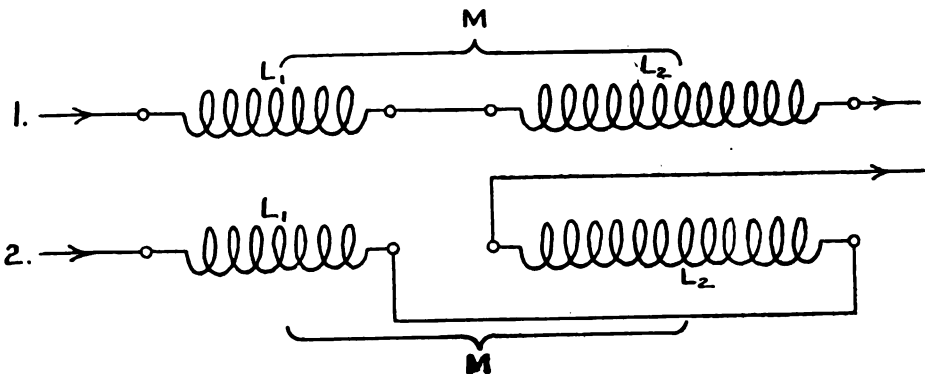
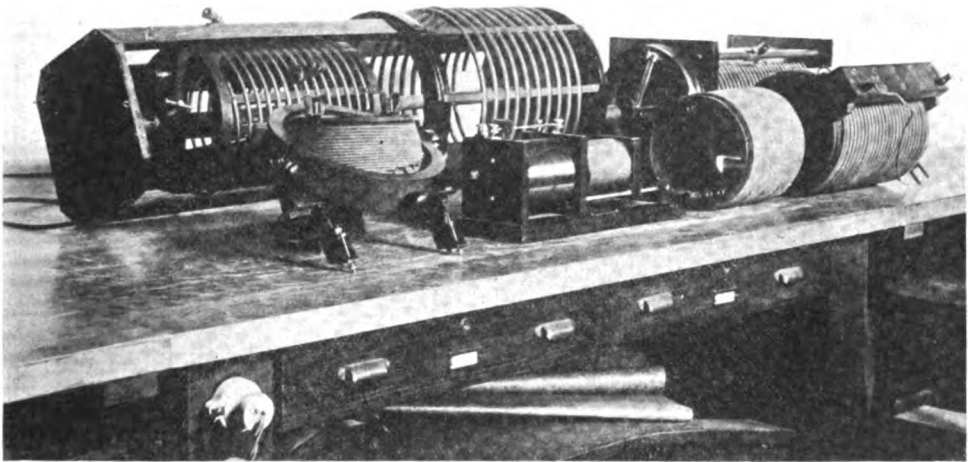

Fig. 41
Fig. 42
Fig. 41 are shown the two ways in which inductances  $L_1$  and  $L_2$  can be connected so as to cause their fields either to assist or to oppose each other. Lines 1 and 2 of that figure correspond to cases of the determination of  $L_x$  and  $L_y$ . It may be mentioned that, if the coils are then connected in parallel, Formula (53) of Article VI of this series affords a good check of the accuracy of measurement of  $M$ . In Fig. 42 a number of different types of coupler are shown. In the rear, to the right, is seen a transmitting coupler, wound with flat copper band, one of its coils being helical and the other spiral. To the left, in the rear, is a double cylinder transmitting coupler wound with round copper tubing. In the front, to the right, is a low voltage coupler for use on Poulsen arc transmitting circuits. An ordinary receiving coupler is visible in the center of the front, and to its left an efficient type of receiving coupler, the inner coil of which is wound on a spherical surface.